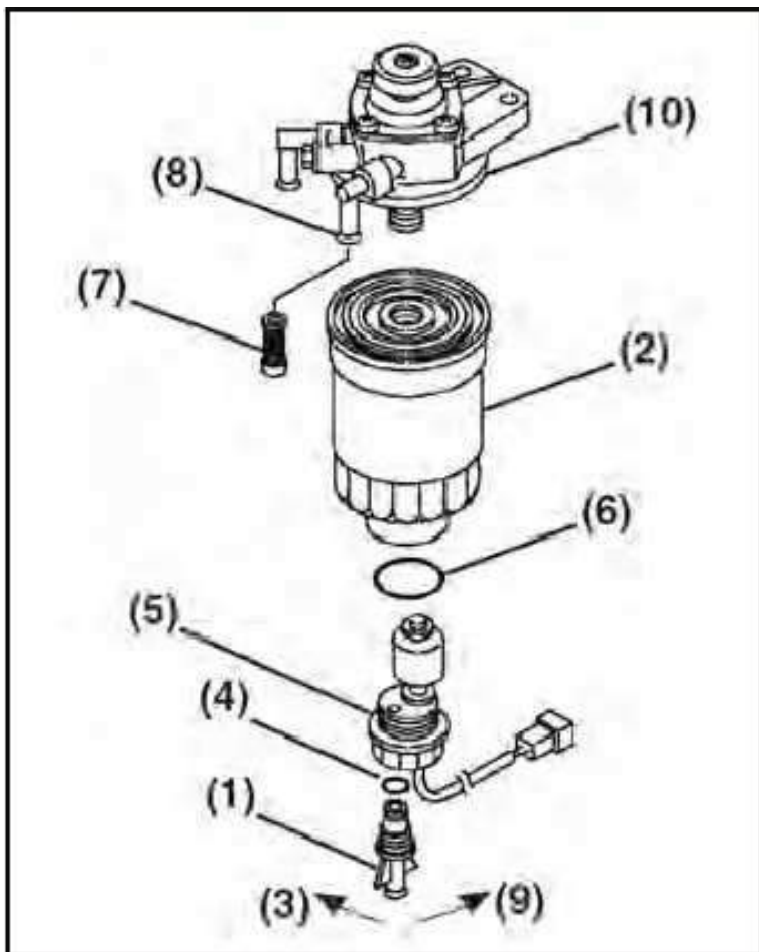

Figure 5-15
5. Carefully open the drain plug (**Figure 5-15, (1)**) to drain fuel from the fuel filter.
7. Remove the drain plug (**Figure 5-15, (1)**) from the fuel filter (**Figure 5-15, (2)**) by turning it to the left (**Figure 5-15, (3)**).
8. Check the condition of the drain plug O-ring (**Figure 5-15, (4)**). Replace the O-ring if damaged.
10. Remove the fuel filter sensor assembly (**Figure 5-15, (5)**) by turning it to the left (**Figure 5-15, (3)**).
11. Carefully remove the in-line fuel filter (**Figure 5-15, (7)**) from the output nipple (**Figure 5-15, (8)**) that goes to the fuel injection pump.
13. Carefully install the new in-line fuel filter (**Figure 5-15, (7)**) into the output nipple (**Figure 5-15, (8)**).
14. Carefully install the fuel filter sensor assembly (**Figure 5-15, (5)**) in the new fuel filter using the new O-ring supplied with the fuel filter (**Figure 5-15, (2)**) by turning the fuel filter sensor assembly to the right (**Figure 5-15, (9)**).
15. Install the drain plug (**Figure 5-15, (1)**) on the new fuel filter (**Figure 5-15, (3)**) by turning the drain plug to the right (**Figure 5-15, (8)**). Hand tighten only.
16. Clean the fuel filter mounting surface (**Figure 5-15, (10)**) and apply a small amount of diesel fuel to the gasket of the new filter.